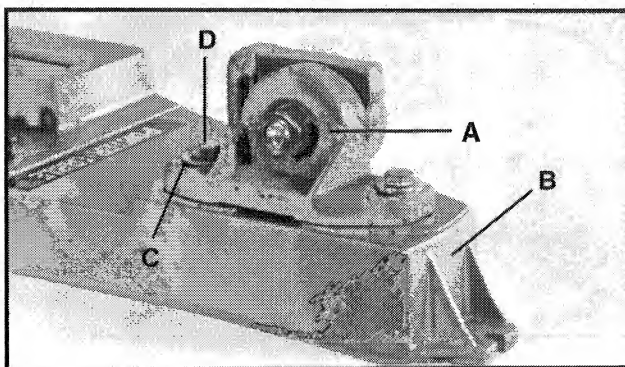

Fig. 2
1. Set the hinge assembly (A) on base (B) Fig. 2, so that the center of the elongated holes in the hinge assembly mounting bracket are over the center of the elongated holes in the base.
2. Install the two  $\frac{3}{8}$ " I.D. x 1" O.D. washers (C) Fig. 2, on the two  $\frac{3}{8}$ "-16 x 1 $\frac{1}{2}$ " long bolts (D) and insert the bolts through hinge assembly (A) and base (B), as shown. Thread the bolts into the two  $\frac{3}{8}$ "-16 square nuts which are to be located in grooves in underside of base (B) beneath the elongated holes and snug up bolts (D) Fig. 2.